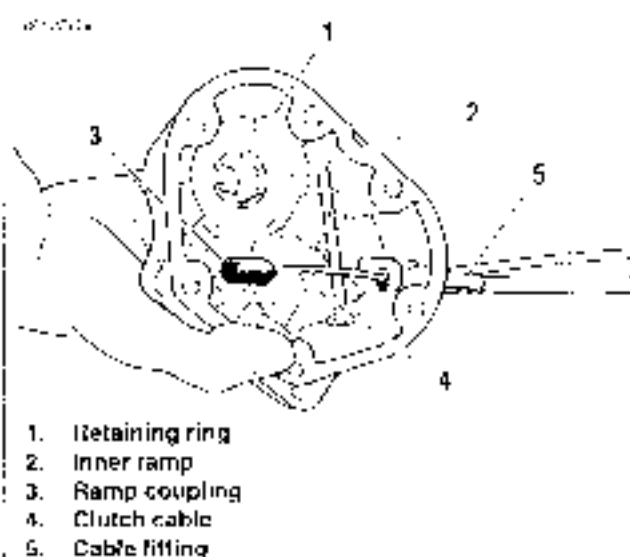

Figure 2-115. Clutch Cable Connection
4. See Figure 2-115. Note position of retaining ring opening. Retaining ring opening must be positioned in approximately the same location during assembly. Remove retaining ring (1).
5. Pull inner ramp (2) and coupling (3) out of side cover. Hold inner and outer ramps together to keep balls from falling out.
6. Rotate the inner ramp to a position which will allow the coupling to be disconnected from the inner ramp lever arm. Disconnect coupling from inner ramp. Disconnect cable end (4) from coupling.
7. Back out threaded cable fitting (5) from side cover.
1. See Figure 2-115. Thread clutch cable fitting (5) into side cover. Do not tighten at this time.
2. Connect cable end to coupling (3). Rotate ramps for best access and install coupling on inner ramp (2). Place ramp assembly in position in side cover.
3. Install retaining ring (1). Position retaining ring opening so it is located approximately over the outer ramp ball (the stop that prevents rotation).